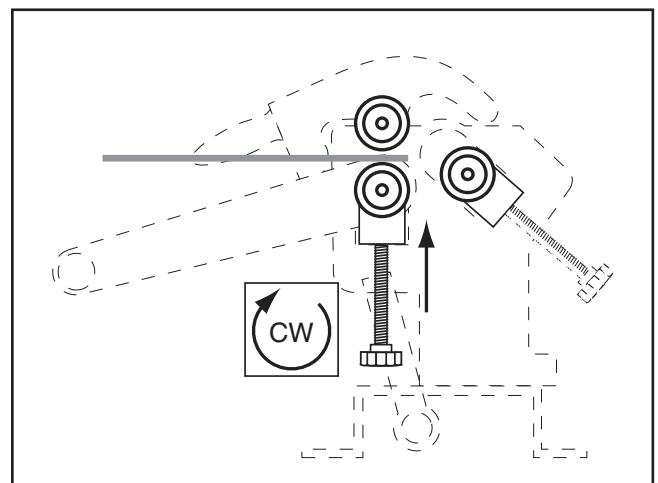

Figure 16. Raising bottom roller.
- Place the workpiece between the top and bottom rollers, as shown in **Figure 16**. Turn the thickness adjust knobs to raise the bottom roller until the workpiece is held snug between the top and bottom rollers. Be sure to turn the thickness adjust knobs equal amounts.